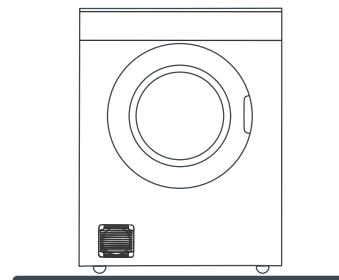

Fig. 1 Free standing
1. Use a leveller or measure to determine the position of the horizontal drilling template on the wall. Temporarily fix in place with tape, then adhere the two vertical templates to the left and right sides ensuring a 90 angle (Fig.1).